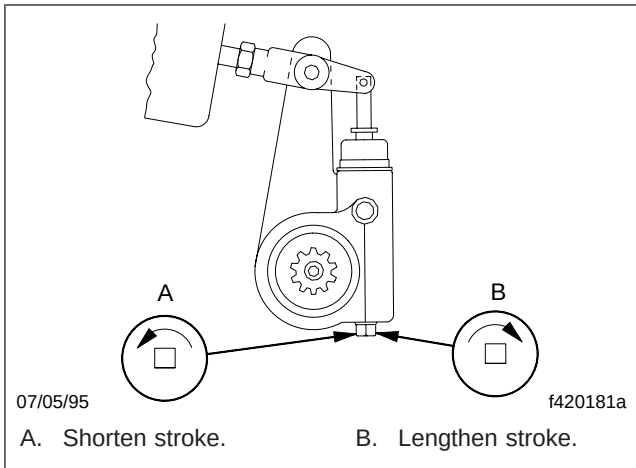

Fig. 8, Adjusting the Stroke
4. Using the manual adjusting nut on the slack adjuster, adjust the brake chamber stroke (coarse adjustment), as follows. See Fig. 8.
- 5.4 The free-stroke for a new brake installation should be 5/8 to 3/4 inch (16 to 19 mm). For a brake that is in service, the free-stroke should be 1/2 to 5/8 inch (13 to 16 mm). If it is not, turn the adjusting nut 1/8 turn, as shown in Fig. 8. Then,
If the applied chamber stroke is incorrect, turn the adjusting nut 1/8-turn counter-clockwise to shorten the stroke, or 1/8-turn clockwise to lengthen it. See Fig. 8. Measure the applied stroke again and readjust it until it is correct.